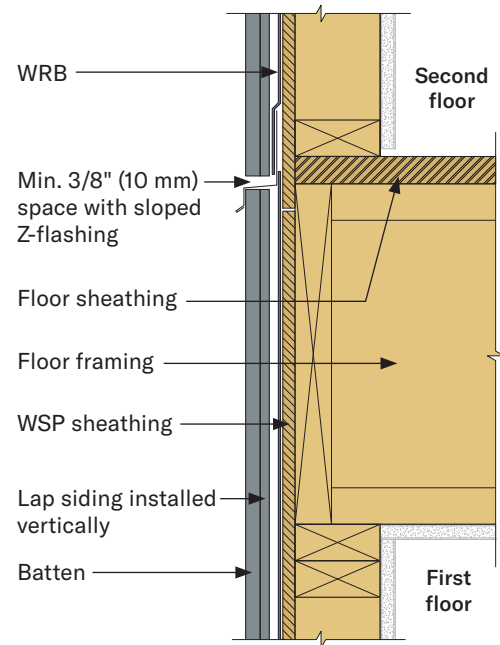

Figure 9c
- DO NOT bridge floors with lap installed vertically or battens. (Figures 9c)